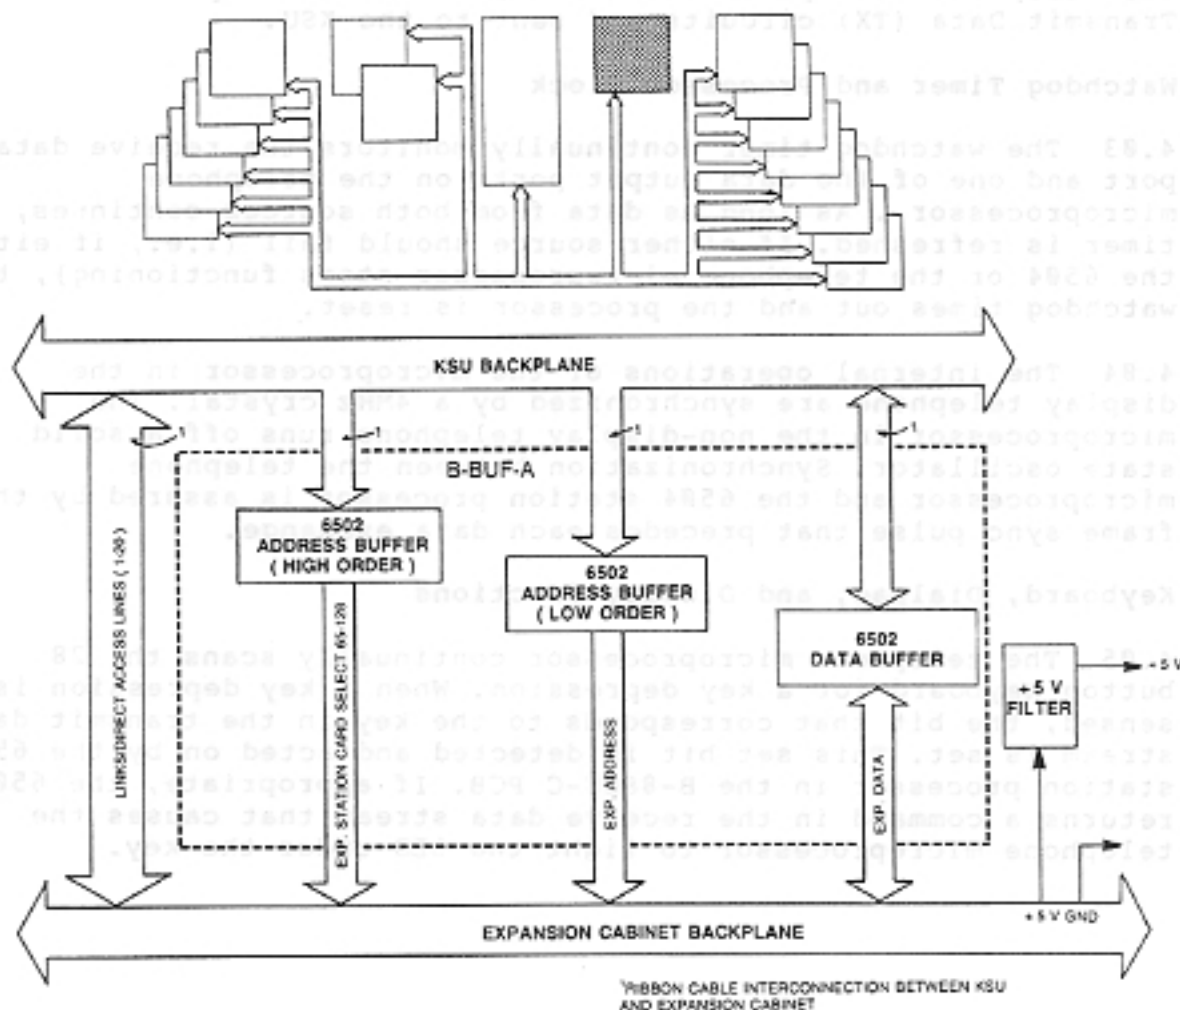

Figure 8-15 B-BUF-A BUFFER PCB BLOCK DIAGRAM, TCX-128
3.70 The B-BUF-A PCB (Figure 8-15), located in the expansion cabinet, functions as a buffer between the 6502 KSU Data Bus and the 6502 expansion cabinet Data Bus. If the expansion cabinet is not installed, the B-BUF-A PCB is not required.